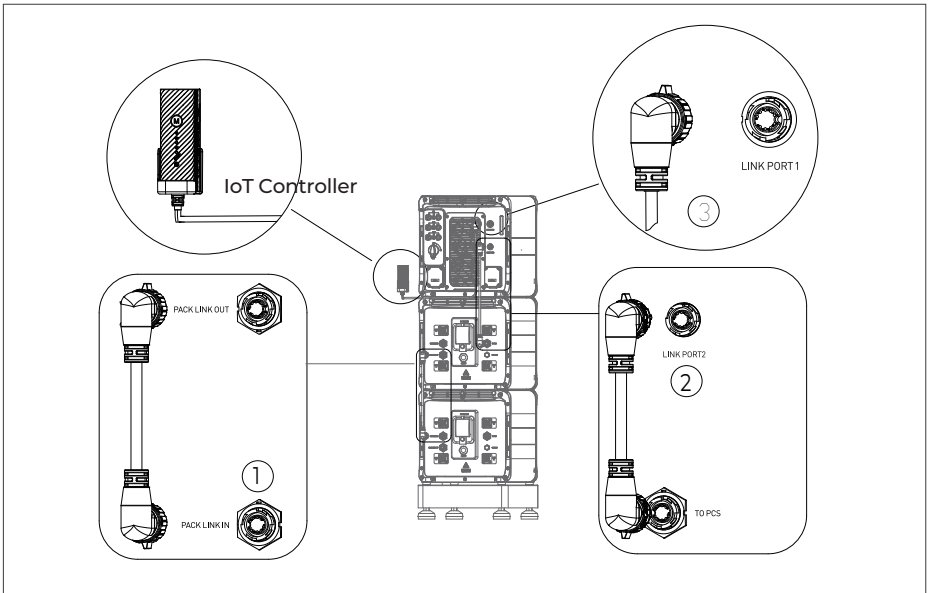

Figure 5-10
To achieve communication between two B500 battery packs, a communication cable is required. Plug one end of the cable to the B500 Link-in port, and the other to the upper B500's Link-out port. See Figure 5-10 “①”.
For communication between EP760 inverter and B500 battery packs, plug one end of the communication cable to the top B500's inverter signal port (PCS LINK), and the other to the LINK PORT 2 of EP760 inverter. See Figure 5-10 “②”.
Connect the IoT controller to the EP760 inverter. See Figure 5-10 “③”.